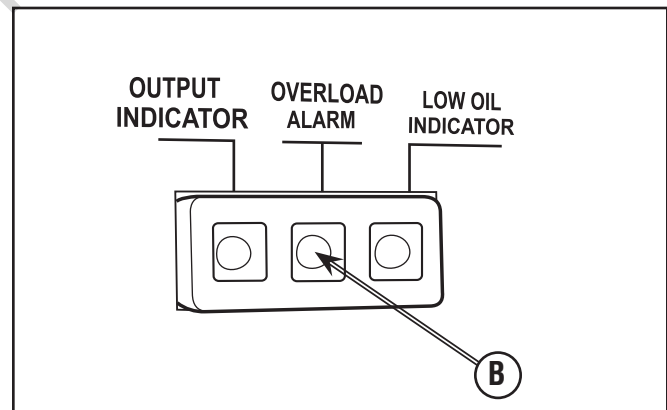

Figure 61
- Check the overload alarm (B, Figure 61). If the red LED light is illuminated, and there are no loads being applied to the generator, then there is a short circuit or the inverter module is faulty. Check for loose wires from inverter to receptacle. If none are found, replace the inverter module.